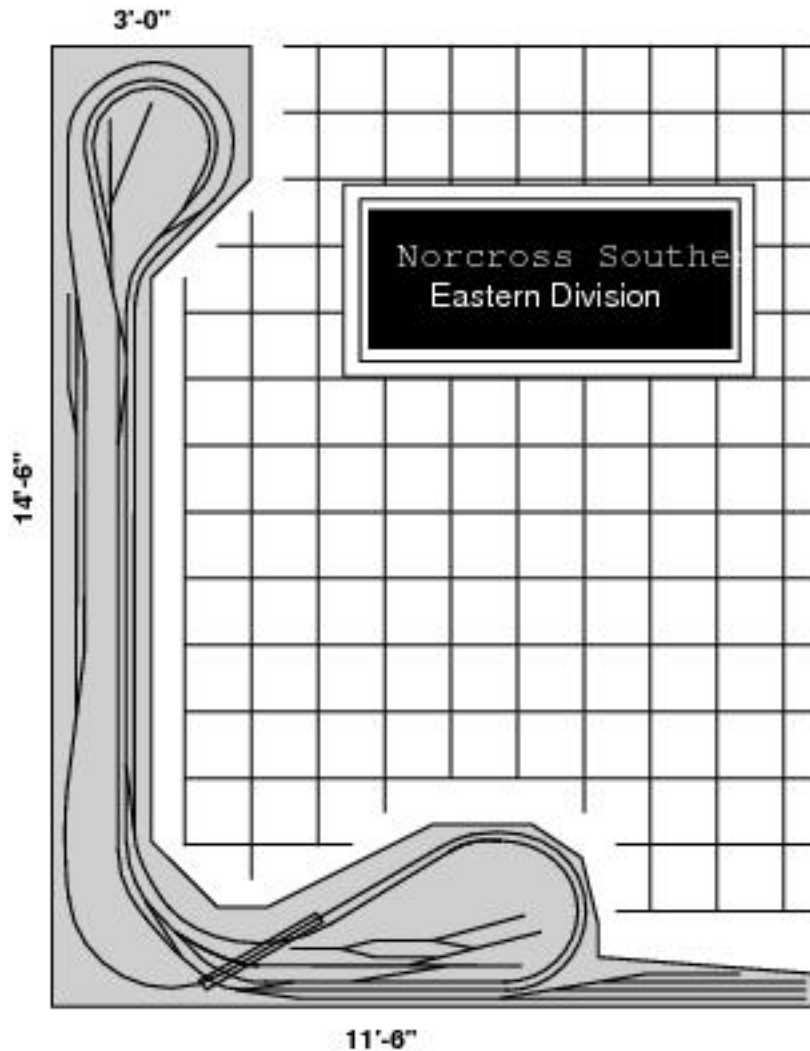

Figure 4-1: Medium sized layout, Norcross Southern track plan
**Figure 4-1** shows the track plan for the layout. The track plan could easily be scaled up to HO size and will fit along two walls of a double garage. The Norcross Southern was built in N scale to fit an L shaped space 11'-6" by 14'-6". It is intended primarily for DCC display and demonstration purposes, with running trains as its primary emphasis. Since prototype operation is not a consideration here, there is no mainline staging yard, no main yard and no engine facilities. However, the twice around plan does provide five passing sidings so several trains can be run simultaneously and can demonstrate a fully operational signaling system. Also there is sufficient switching to operate way freight or two. A timesaver switching area like that designed by the late John Allen has been built into the shorter leg of the layout. The layout also demonstrates computer assisted switching with car occupancy detection, automated switch control, feedback and automated route selection. In fact the entire layout is designed so that it can be set up to use computer control software, like WinLok, Railroad & Co. or Engine Commander for automated control. It is not necessary to use a computer to run the layout. Normal